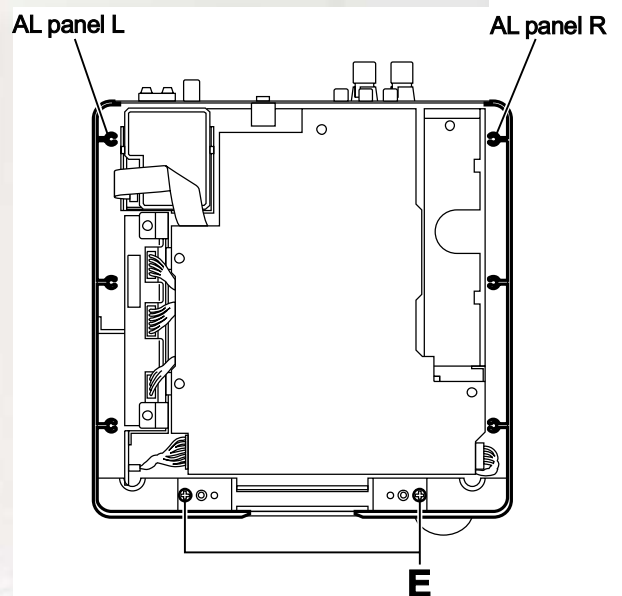

Fig.4
- (5) From the top side of the main body, remove the two screws **E** attaching the AL panel L and AL panel R. (See Fig.4.)